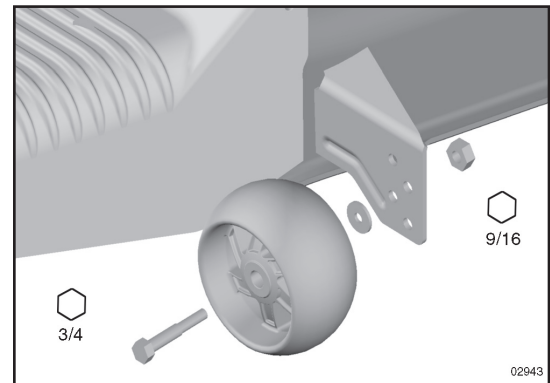

Fig.22
## TO ADJUST GAUGE WHEELS (See Fig. 22)
- When mowing large areas, start by turning to the right so that clippings will discharge away from shrubs, fences, driveways, etc. After one or two rounds, mow in the opposite direction making left hand turns until finished (See Fig. 22).